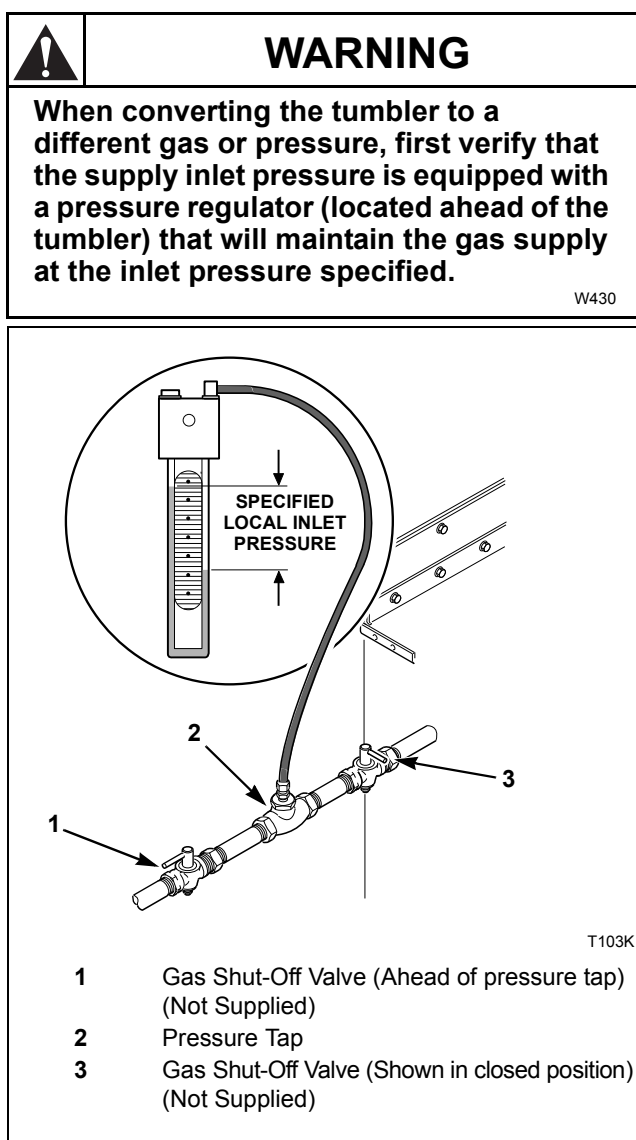

Figure 6
1. Disconnect electrical power from tumbler. Close gas shut-off valve to tumbler. Refer to *Figure 6*.